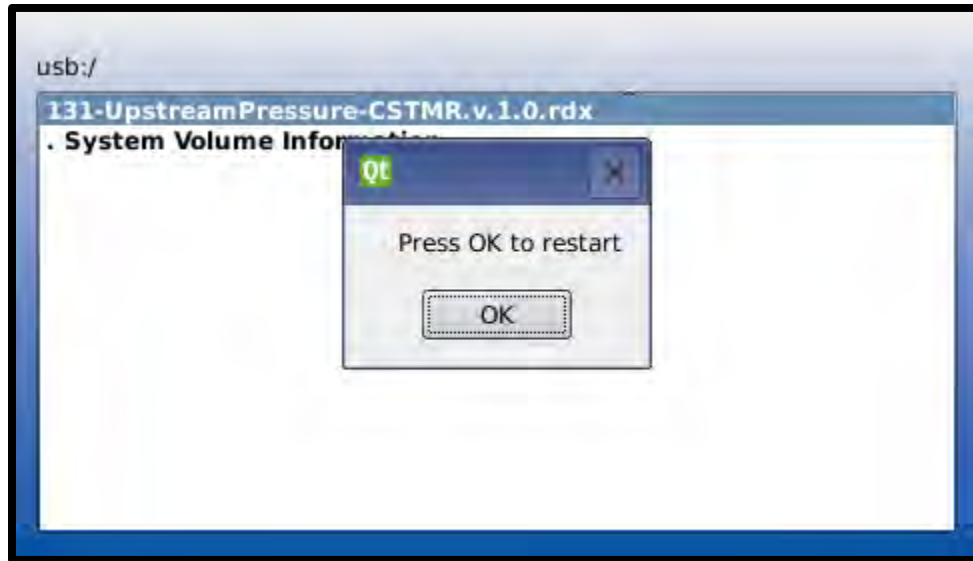

Figure 5.8
- e. Press “OK” to restart per **FIGURE 5.8**.